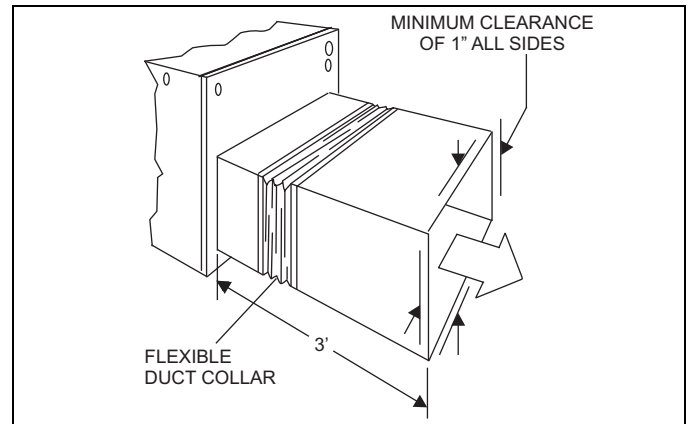

FIGURE 1: Plenum Clearances
- Refer to the unit rating plate for the air handler model number, and then see the dimensions page of this instruction for supply air plenum dimensions in Figure 1. The plenum must be installed according to the instructions.
If electric heat is used, a minimum clearance of 1" (2.5 cm) must be maintained on all sides of the supply air duct and/or plenum continuously for up to 3 feet (91.4 cm) (See Figure 1).